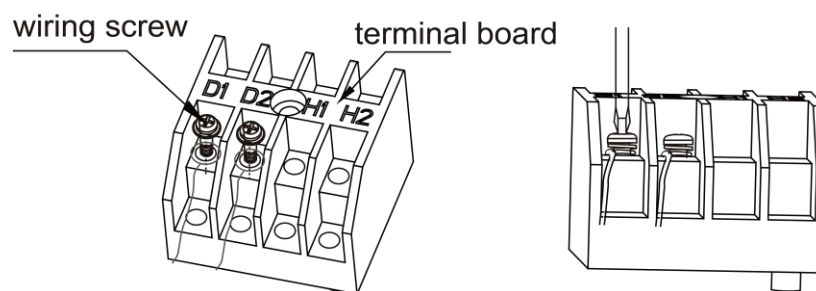
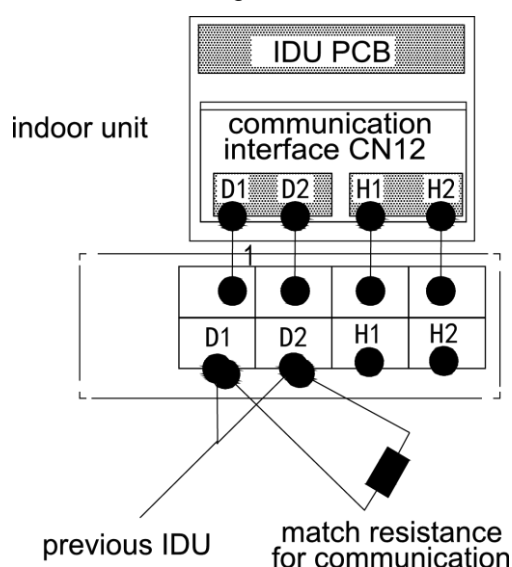

Fig 5.3.1
Fig 5.3.2
- (1) Detach the electric box lid.
- (2) Let the Communication cable pass through the wiring through-holes.
- (3) Connect the communication wire to terminal D1 and D2 of indoor 4-bit wiring board, as shown in fig 5.3.1.
- (4) Fix the communication cable with clamp of electric box.
- (5) For more reliable communication, make sure connect the terminal resistor to the most downstream IDU of the communication bus (terminal D1 and D2), as shown in fig 5.3.2, terminal resistor is provided with each ODU.